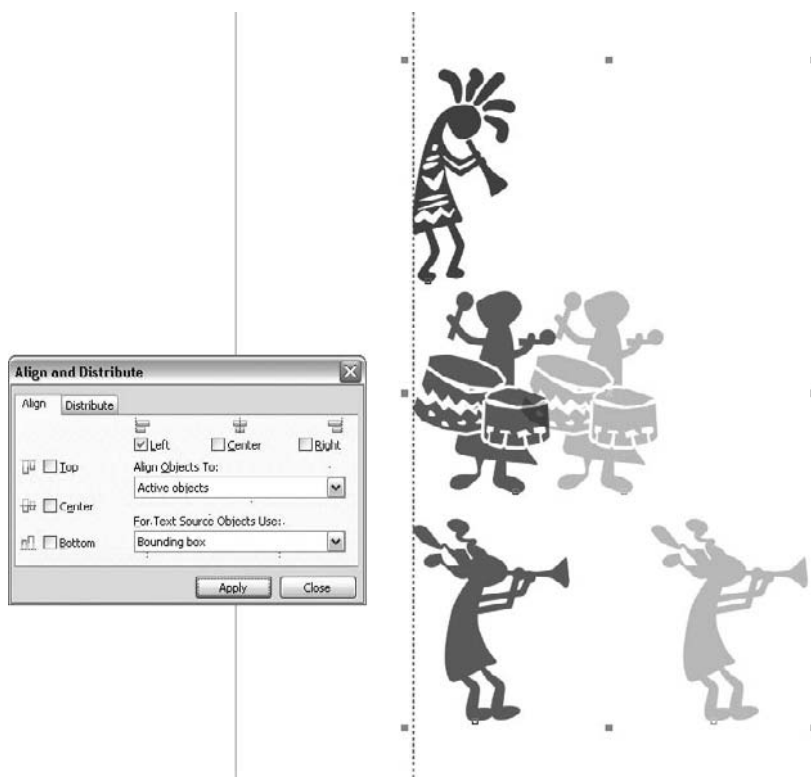

FIGURE 12-3 These objects were aligned vertically using the Left option.
- **Vertical Alignment** Choose Left, Center, or Right to align your objects accordingly. Figure 12-3 shows the results of a vertical alignment of a selection of objects. In the Left and Right alignment operations, the object farthest from the center of your selection determines the point at which the objects align.